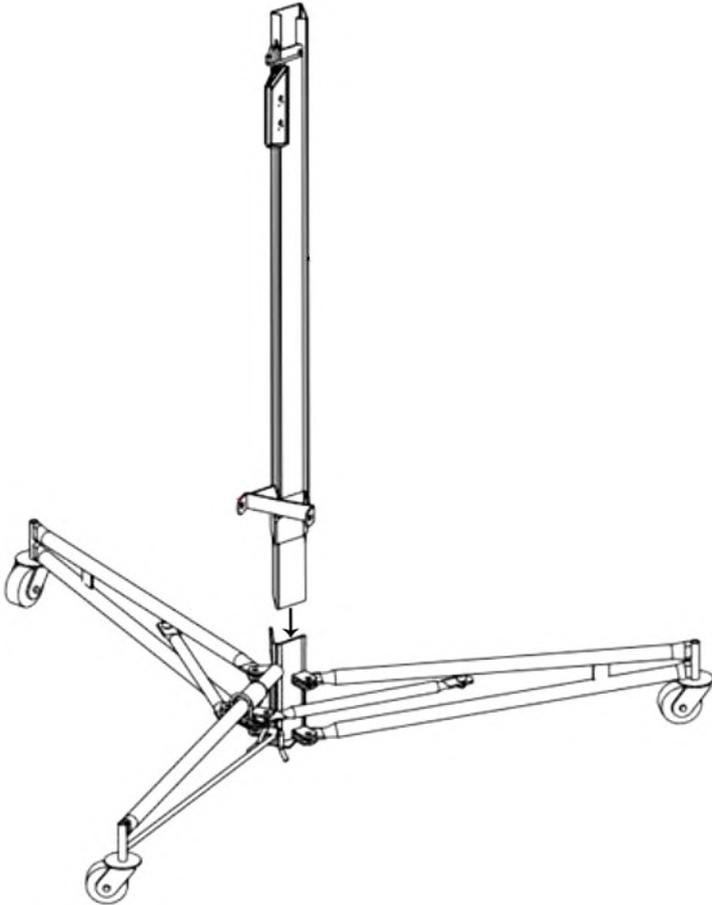

Figure 18
- Set the frame housing onto the two “V” angles on the tripod base, and lower the frame until it is secured by the angles. Before continuing, be sure the frame is pushed all the way down and is held securely by the angles as shown in Fig. 18.